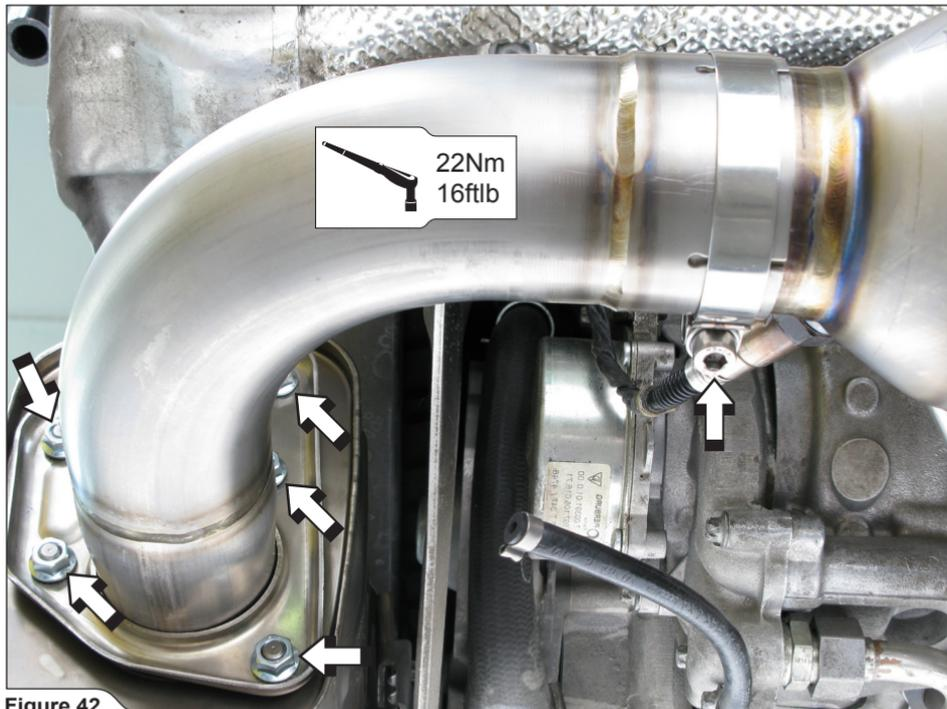

Figure 42
23. **For Evolution-Race:** align the link pipes and tighten all M8 nuts on Akrapovič muffler flanges and bolts on metal clamps to a specified torque (**Figure 42**).